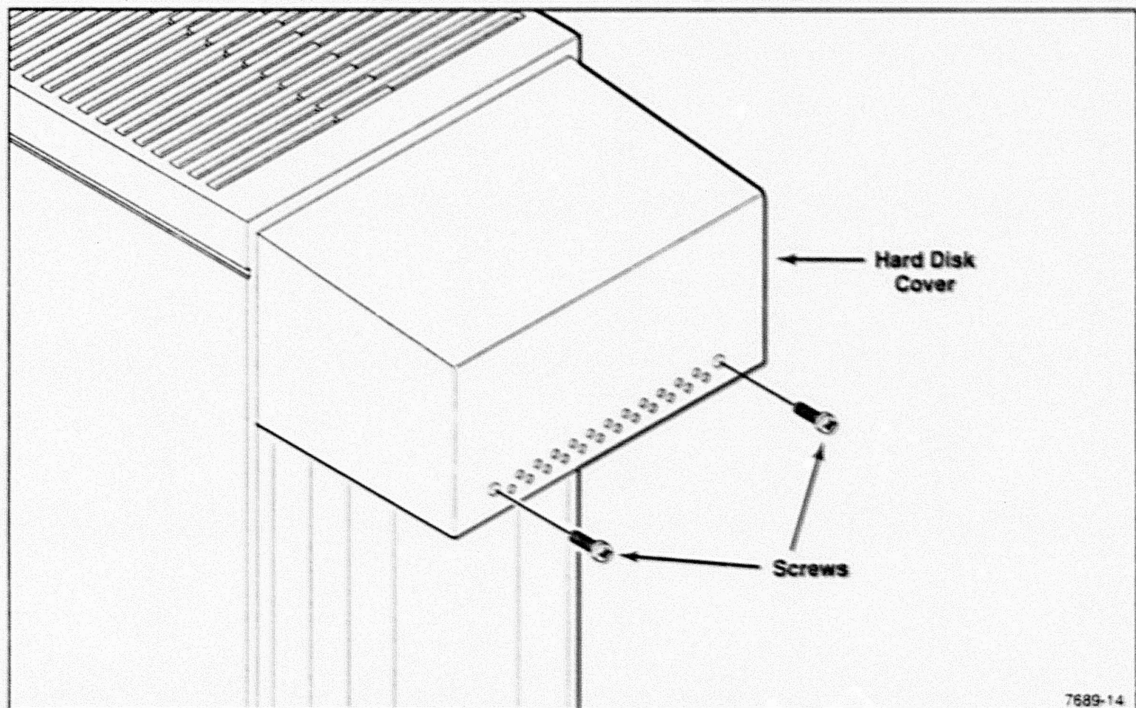

Figure 4. Mass Storage Subassembly Rear Mounting Screws.
1. Remove the two screws that secure the hard disk cover at the rear of the compute module (see Figure 4), then remove the cover.